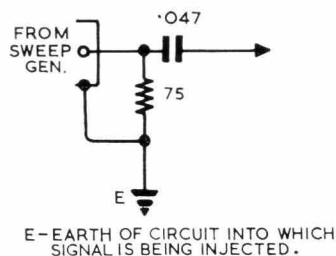

FIG. 1.
To align the vision IF amp., a sweep generator and a marker generator, both covering the range 28 to 38.5 Mc/s are required, together with a display unit. The marker generator may be a signal generator and the display unit a C.R.O. These instruments should be interconnected as described in the instructions supplied with the sweep generator. The sweep generator should be terminated with a resistor equal to its output impedance and connected to the receiver as shown in Figure 1.
- Using the terminating network as shown in Fig. 1, connect sweep output between pin of V5 and earth.
- Remove the sweep from V5 and connect it as shown by Figure 1 to pin 2 of V4.